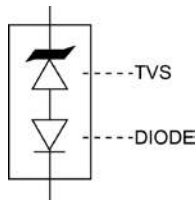
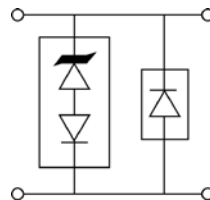

FIGURE 4
FIGURE 5
2. With a repetition rate of 0.01% or less. When pulse testing, do not pulse in opposite direction (see "application schematics" section herein and figures 5 & 6 for further protection in both directions.)
The TVS low capacitance device configuration is shown in figure 4. As a further option for unidirectional applications, an additional low capacitance rectifier diode may be used in parallel in the same polarity direction as the TVS as shown in figure 5. In applications where random high voltage transients occur, this will prevent reverse transients from damaging the internal low capacitance rectifier diode and also provide a low voltage conducting direction. The added rectifier diode should be of similar low capacitance and also have a higher reverse voltage rating than the TVS clamping voltage V_C . The Microsemi recommended rectifier part number for the application in figure 5 is the “SMBJLCR80” or “SMBGLCR80” depending on the terminal configuration desired. If using two (2) low capacitance TVS devices in anti-parallel for bidirectional applications, this added protective feature for both directions (including the reverse of each rectifier diode) is inherently provided in Figure 6. The unidirectional and bidirectional configurations in figure 5 and 6 will both result in twice the capacitance of figure 4.